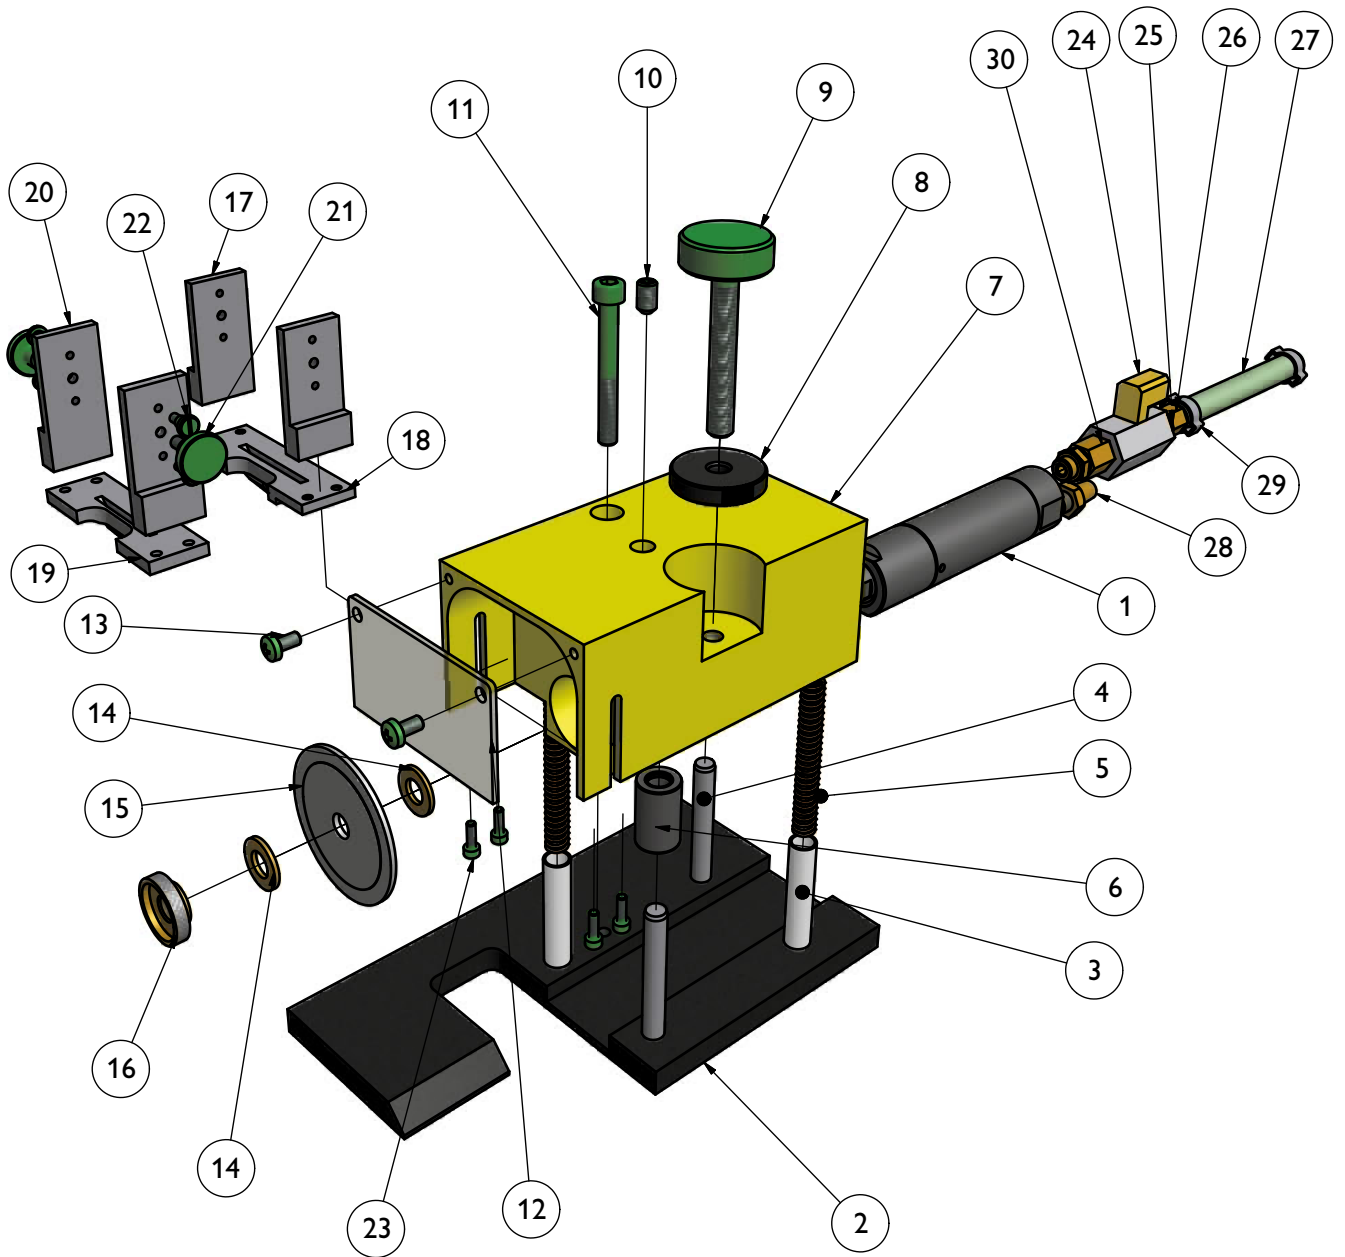

Fig. 3: Exploded drawing
The grinding head (Item 7, Fig. 3) of the CG3 with the compressed air motor (Item 1) can be moved against the baseplate (Item 2). The grinding head is guided in 2 linear ball bearing sleeves (Item 6) on hardened cylindrical pins (Item 4). 2 compression springs (Item 5) in steel sleeves (Item 3) press the grinding head back into its initial position after grinding a groove. To maintain the function and to ensure a long life of the CG3, we advise subjecting the CG3 manual nick grinder to roughly half-yearly maintenance:
- Undo and remove the cylinder head screw (Item 11, Fig. 3).